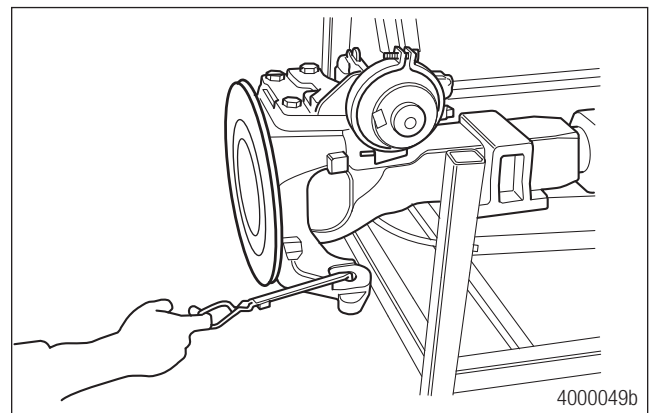

Figure 7.13
3. Read the pounds on the scale. Read the pull necessary to rotate the knuckle. The scale must read 10-30 lb (4.5-13.5 kg). Figure 7.13.